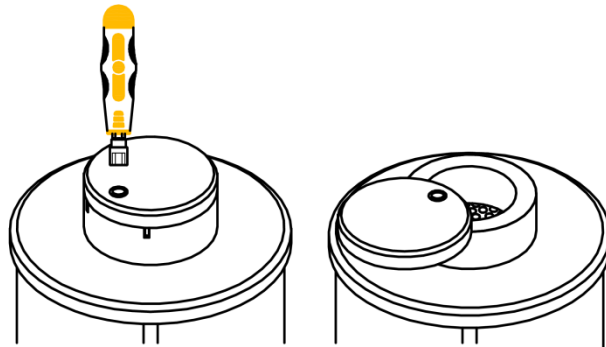

Fig. 9: 1.5 litre reservoir with swivel lid
- 1.5 litre reservoir : Open the reservoir lock of the swivel lid with the socket spanner (*Fig. 9*) and swivel the lid open by 180°